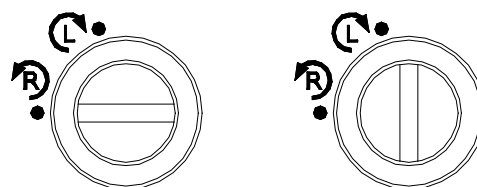

Fig. 4
**CAUTION:** The selection screw must be oriented with the groove vertical (L) or horizontal (R), otherwise the fuel unit will not function properly and damage could result (Fig.4).